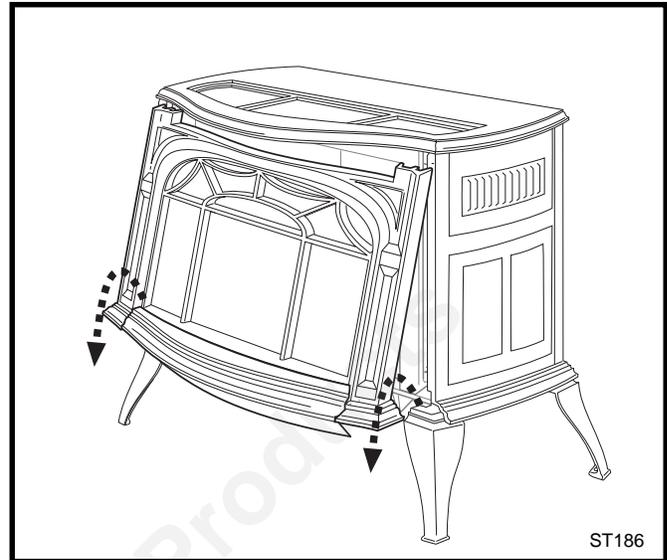

Fig. 35 Remove the front plate and top grille/screen.
2. Remove the front plate, top grille and screen. (Fig. 35)